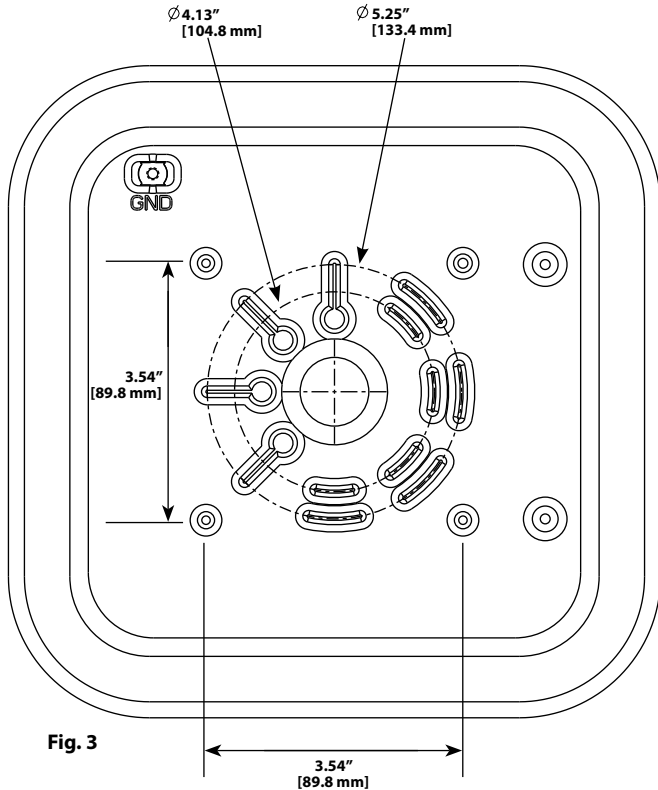

Fig. 3
2. Mount **Junction Box** to ceiling by knocking out **(4) Knock Out Locations** as marked in Fig. 3. Use the appropriate mounting hardware for the mounting surface. May alternately be mounted to recessed junction boxes.